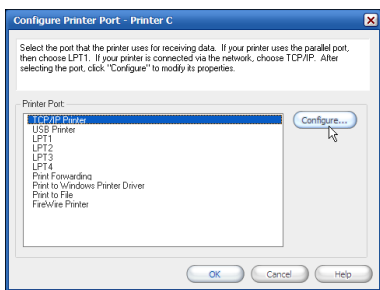

Figure 2—Configure Printer Port: TCP/IP
2. Select **TCP/IP**, and click **Configure** (see Figure 2).